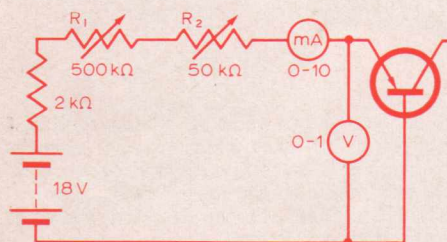

Fig. 9
- (a) Set up the circuit shown in Fig. 9 noting that the collector is left open-circuited. The emitter-base junction now acts as a simple diode but its characteristic will be affected by the base material between the base lead and the emitter junction proper. This material presents a comparatively high resistance which affects the characteristic when the diode is fully conducting.